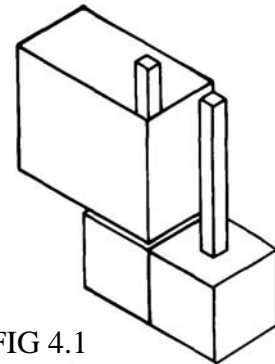

FIG 4.1
5. Locate jumper P1. If operation on 115 VAC supply is desired, install jumper over both pins of P1. If operation on 230 VAC supply is desired, install jumper over one pin as shown in Fig. 4.1.